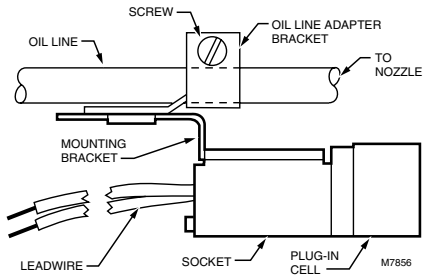

Fig. 5. Use oil line adapter bracket to mount C554A on oil line.
- 6 Mount the oil line adapter bracket on the oil line using the screw and nut provided (Fig. 5).